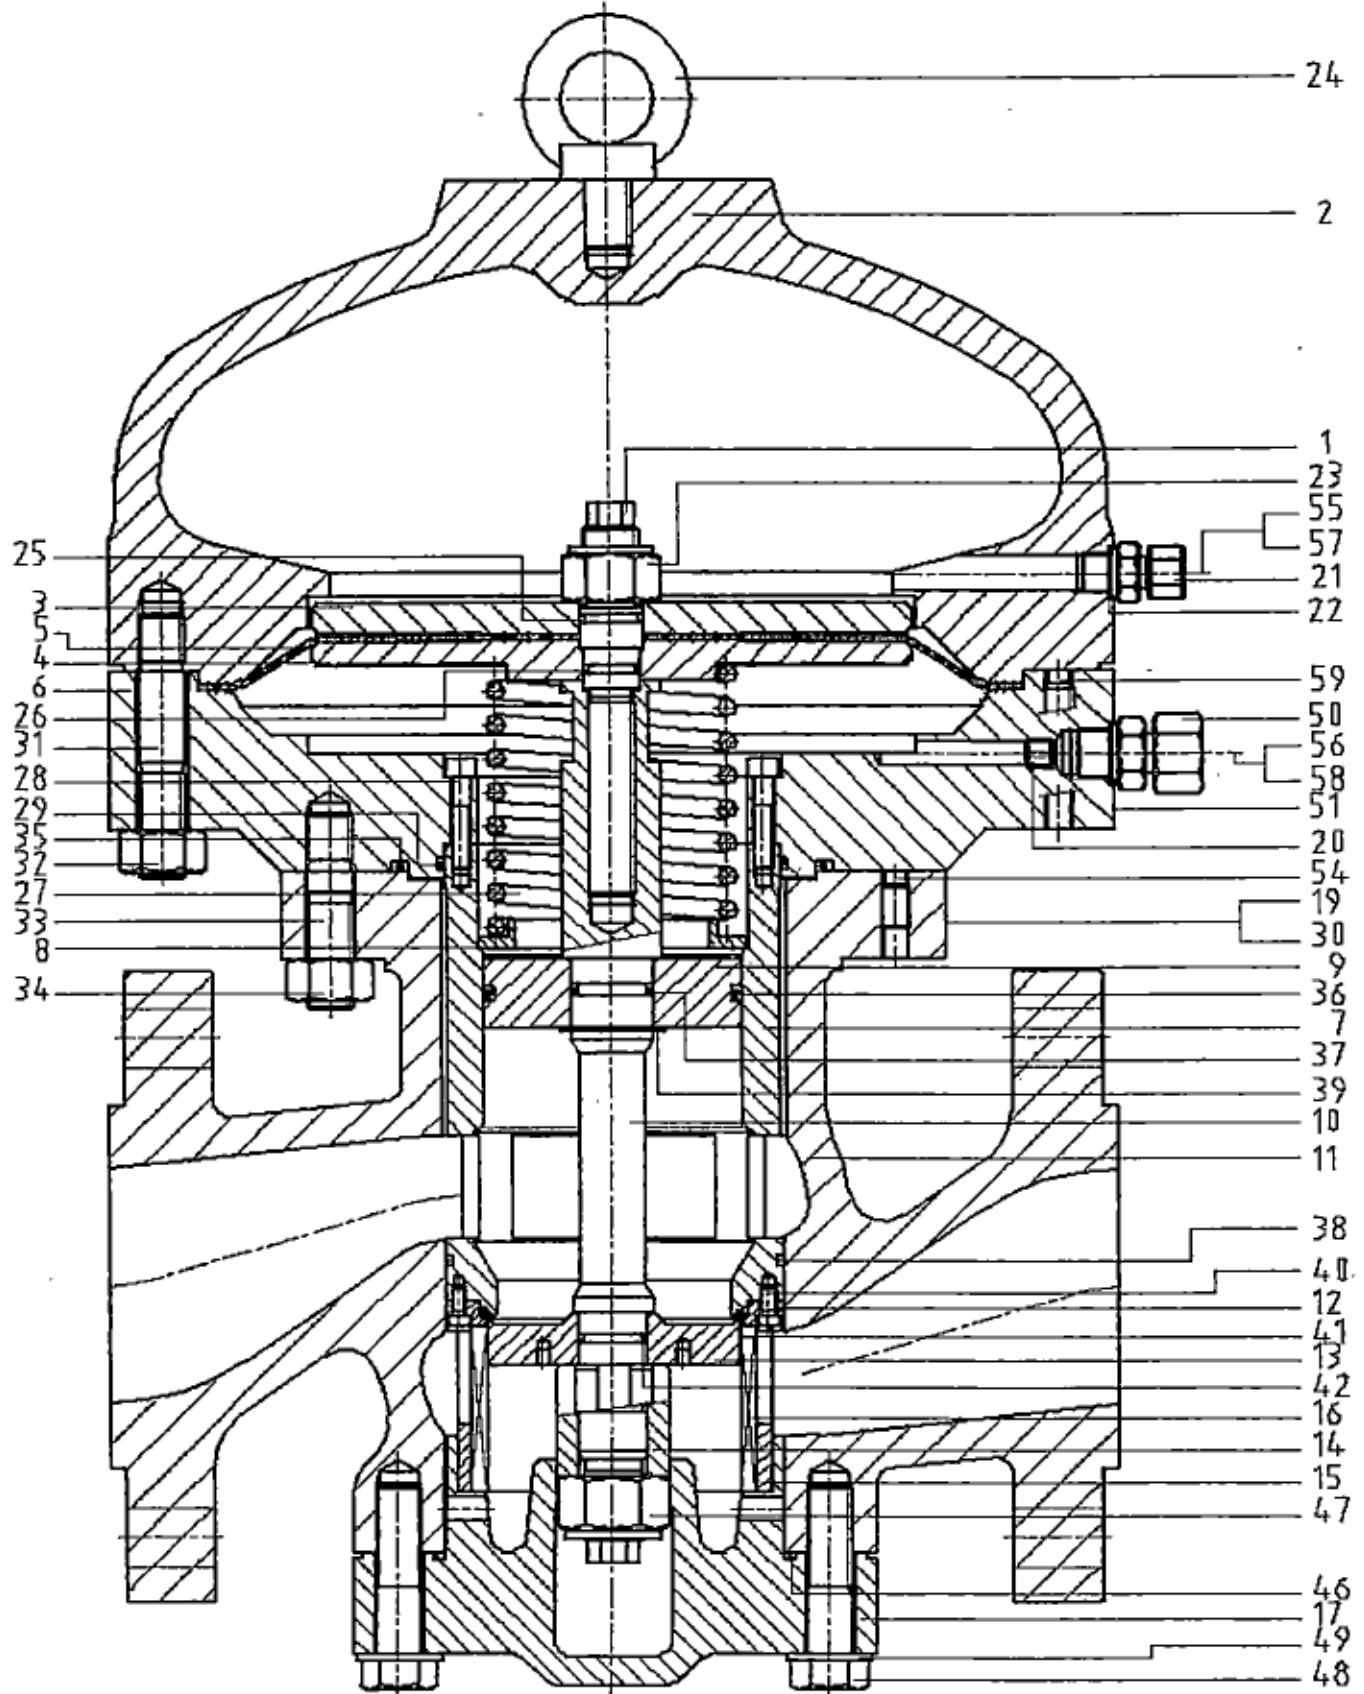

Figure 11: Component drawing R100S-2" to 8"
5.9.1 Partslist R100S (M) 2" t/m 8" See figures 11 and 12 for component drawing.